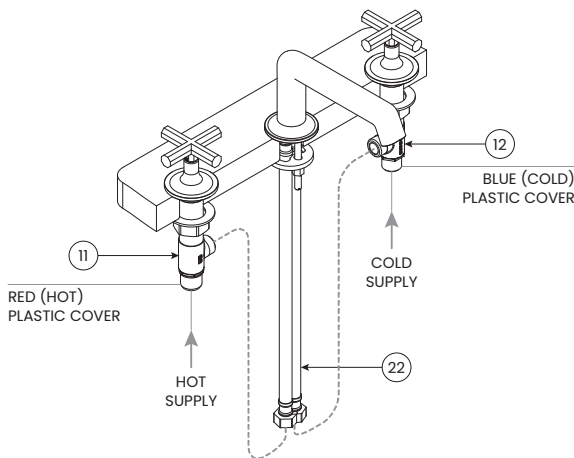

FIGURE 7.1
- 7.1 Connect the Flexible Hoses (22) to the Hot (11) and Cold (12) Deck Valves as shown in Figure 7.1.
- 7.2 Remove the Red (Hot) and Blue (Cold) Plastic Covers from the bottom of the Hot Deck Valve (11) and Cold Deck Valve (12), respectively. Connect the water supply to the valves as shown in Figure 7.1.